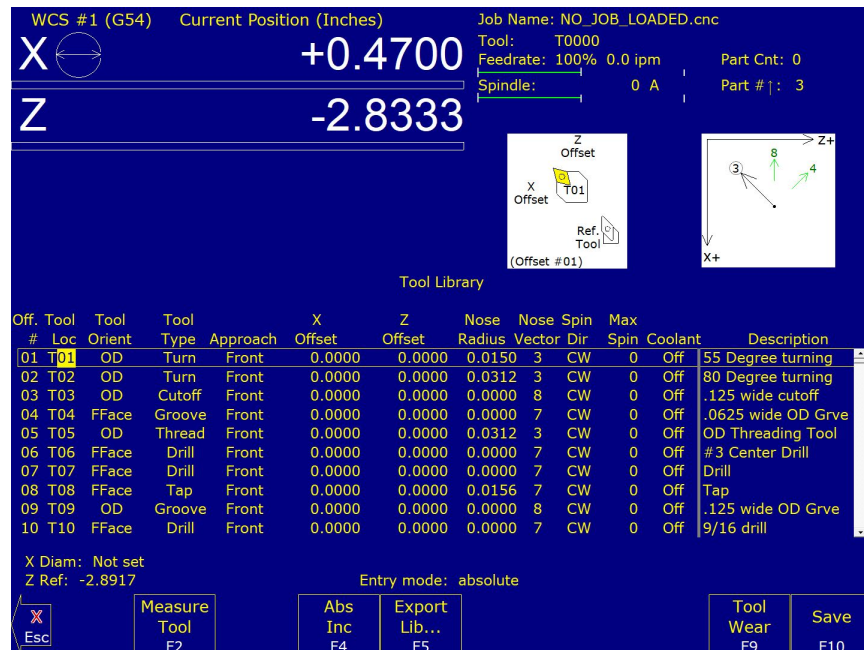

Figure 5.3: **F2 – TOOL OFFSET** menu screen
2. From the Home screen, press **F1 – Setup** → **F2Tool Setup**. You will now have the screen shown in Figure 5.3 pulled up.